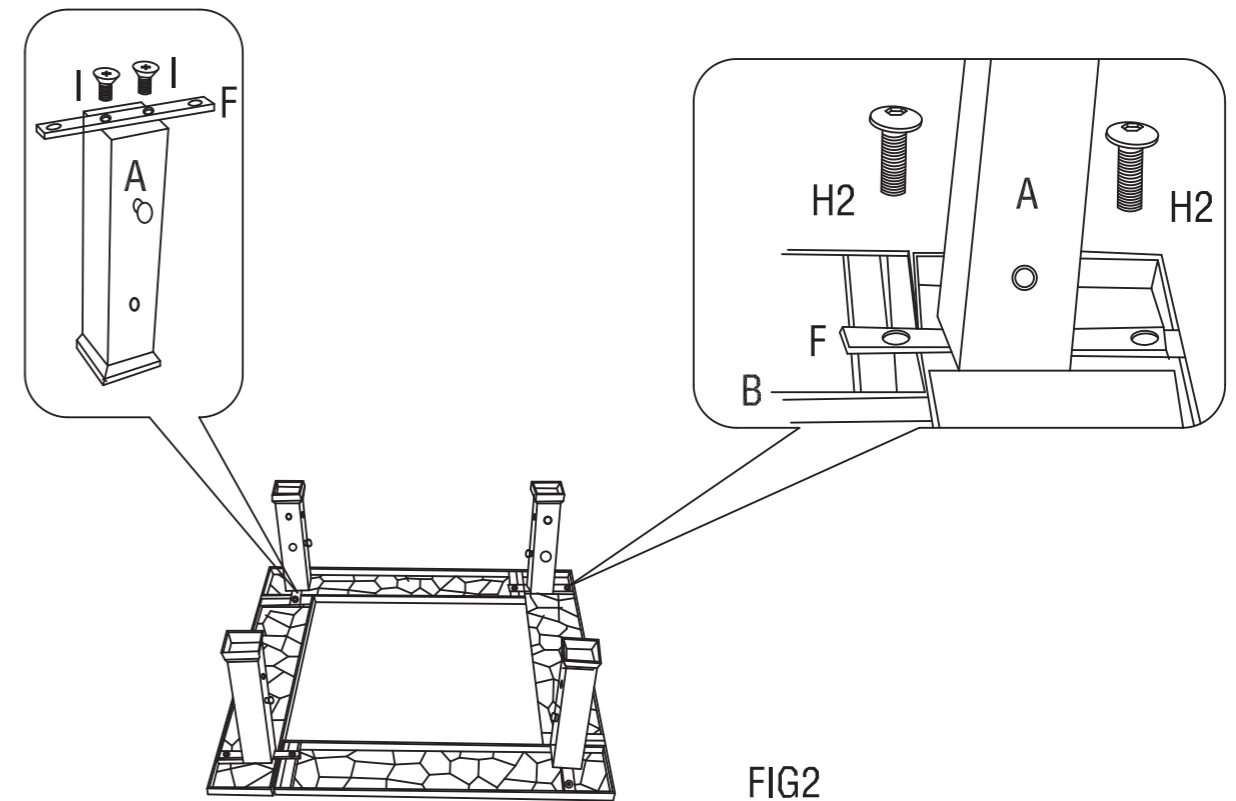

FIG2
Step 2 Attach Connecting Plates (F) to Corner Posts (A) by using Bolts (I) .Tighten the Bolts (I) with an Allen Wrench (L) (provided) . Then attach the Corner Posts (A) installed Connecting Plates (F) to the Mantles (B) by using Bolts (H2) . (View Fig 2)